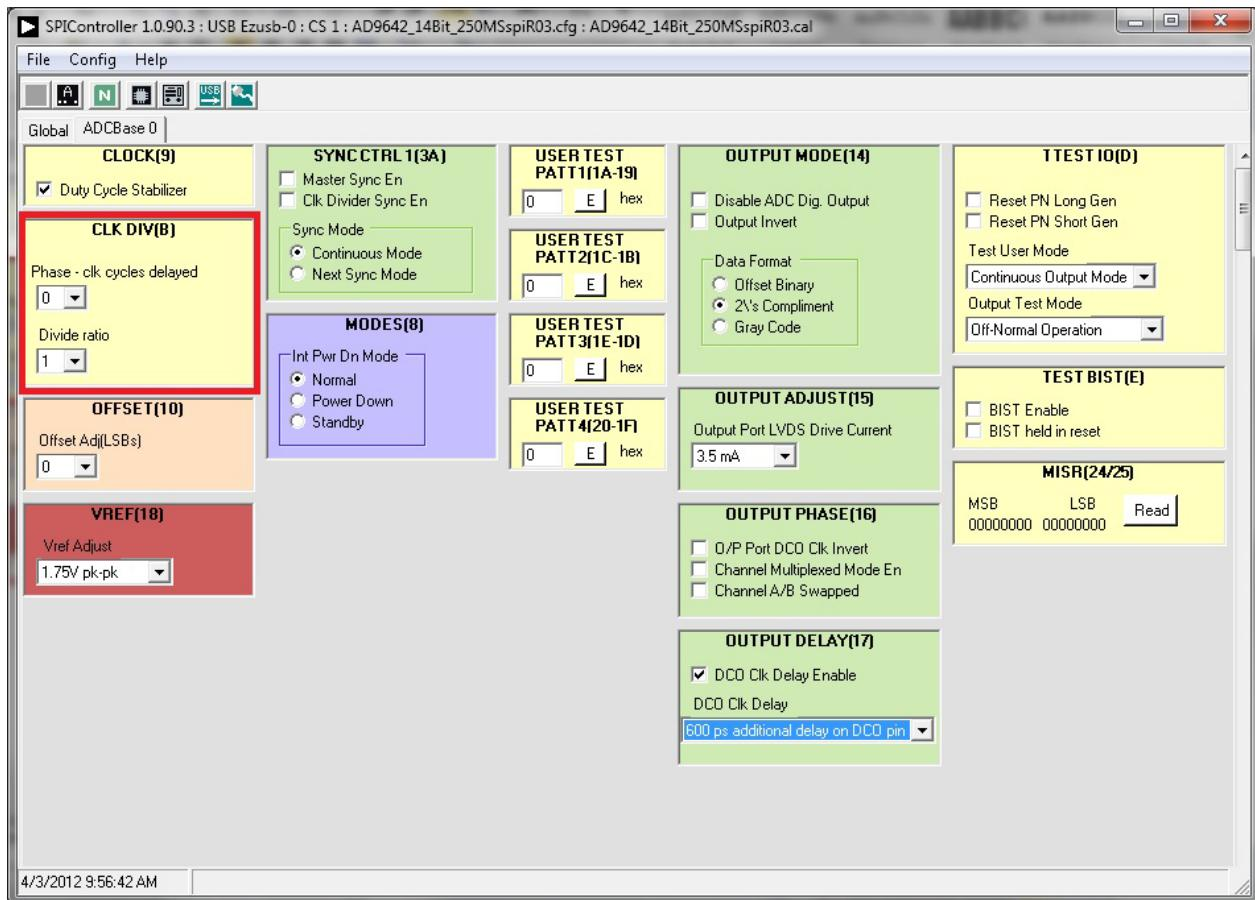

Figure 11. SPI Controller, CLK DIV(B) Section
3. In the **ADCBase 0** tab of the **SPIController** window, find the **CLK DIV(B)** section (see Figure 11). If using the clock divider, use the drop-down box to select the correct clock divide ratio, if necessary. See the appropriate part data sheet; the AN-878 Application Note, High Speed ADC SPI Control Software; and the AN-877 Application Note, Interfacing to High Speed ADCs via SPI, for additional information.
Note that other settings can be changed on the **ADCBase 0** tab (see Figure 11). See the appropriate part data sheet; the AN-878 Application Note, High Speed ADC SPI Control Software; and the AN-877 Application Note, Interfacing to High Speed ADCs via SPI, for additional information on the available settings.